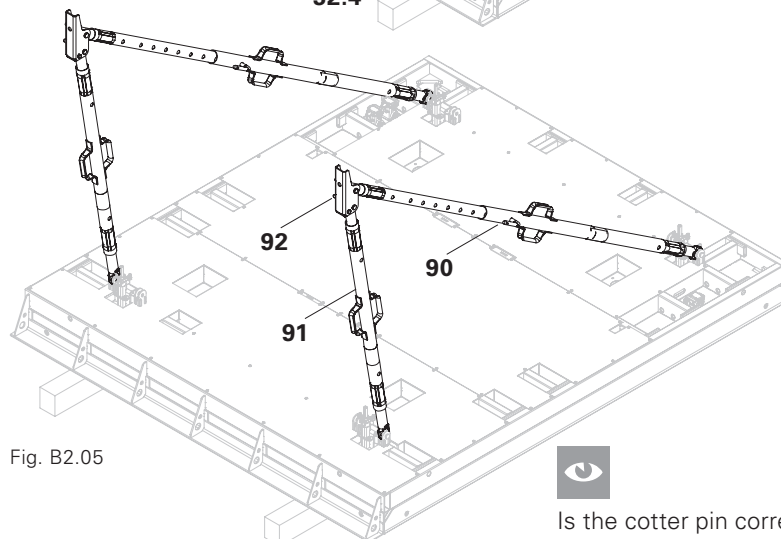

Fig. B2.05
1. Fix Push-Pull Prop (90) and Kicker (91) to the connecting eyelet (32.4) of the Connector RS MXH (32) by means of bolts and cotter pins.
2. Connect Push-Pull Prop and Kicker to the Base Plate (92). (Fig. B2.05)